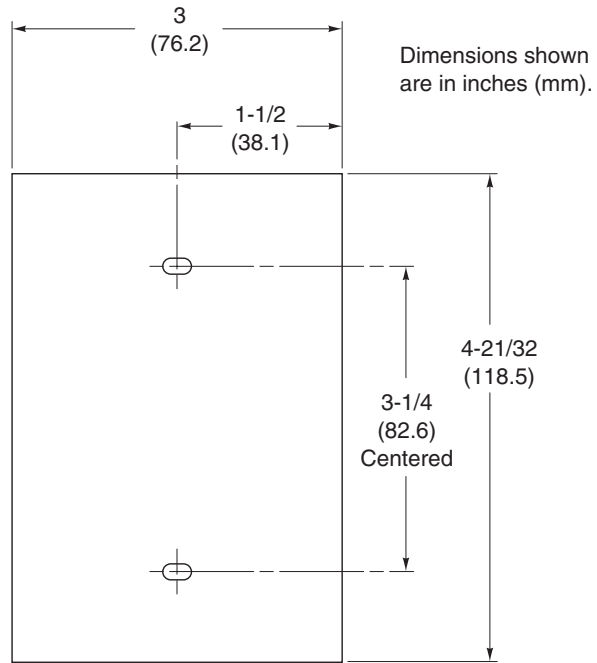
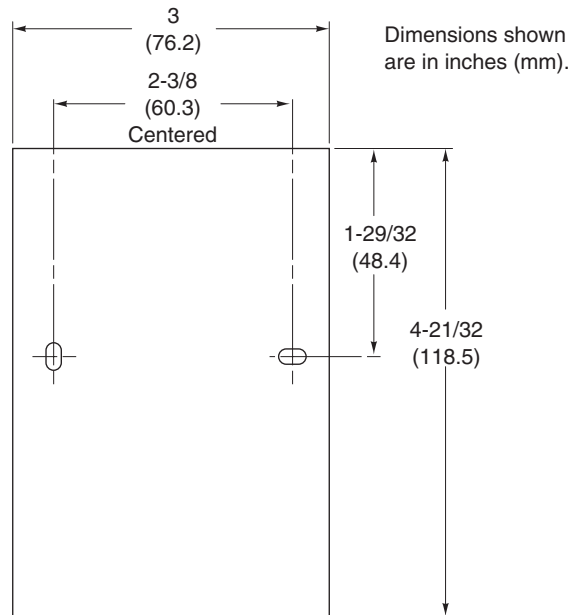

Figure-1 Mounting Dimensions for Direct-wall, 2 x 4 Electrical Box, and Surface Box Mounting.
Figure-2 Mounting Dimensions for 1/4 DIN Electrical Box Mounting.
TAC I/A Series MicroNet Sensors can be direct-wall, 2 x 4 electrical box, 1/4 DIN electrical box, or surface box mounted. See Figure-1 and Figure-2 for appropriate mounting dimensions.
1. Use mounting dimensions shown in Figure-1.
1. Use mounting dimensions shown in Figure-2.